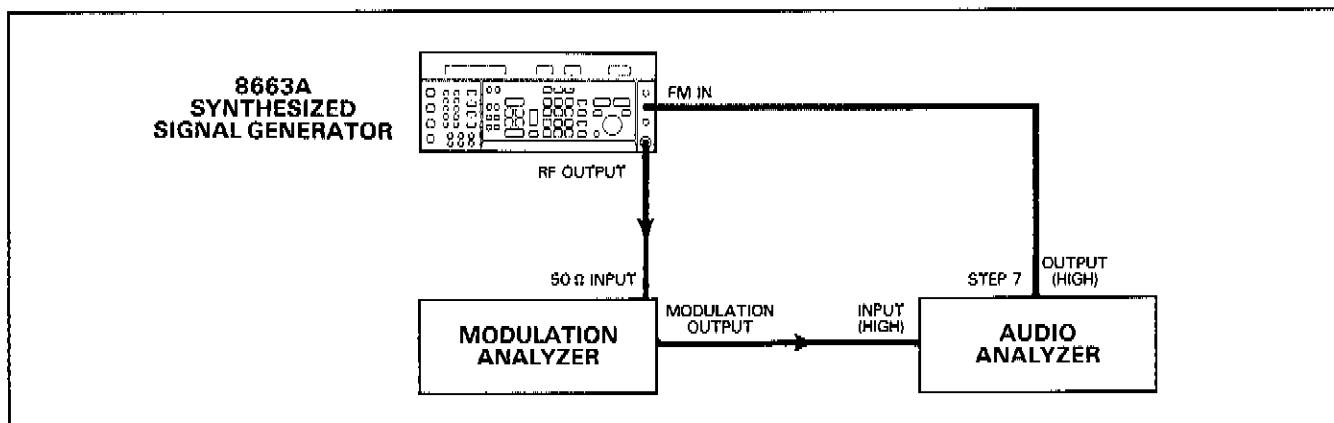

Figure 4-3. AM and FM Test Setup
- Connect the instruments as shown in Figure 4-3 and apply power. Set the Generator's output amplitude to +10.0 dBm. Set the Modulation Analyzer as follows:
7. Connect the instruments as shown in Figure 4-3. Set the Generator to 100.0 MHz, 100 kHz FM deviation and EXT AC source. Set the Audio Analyzer's output frequency to 20 kHz. Adjust the output level of the Audio Analyzer for approximately 1.49V or until the EXT MOD HI/LO indicators on the signal generator are extinguished. Set the modulation analyzer to measure FM with all filters off. The measured distortion should be less than 1.0%.